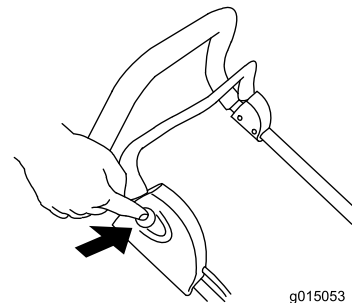

Figure 9
3. Push the button on the right side of the handle and hold it in (Figure 9).